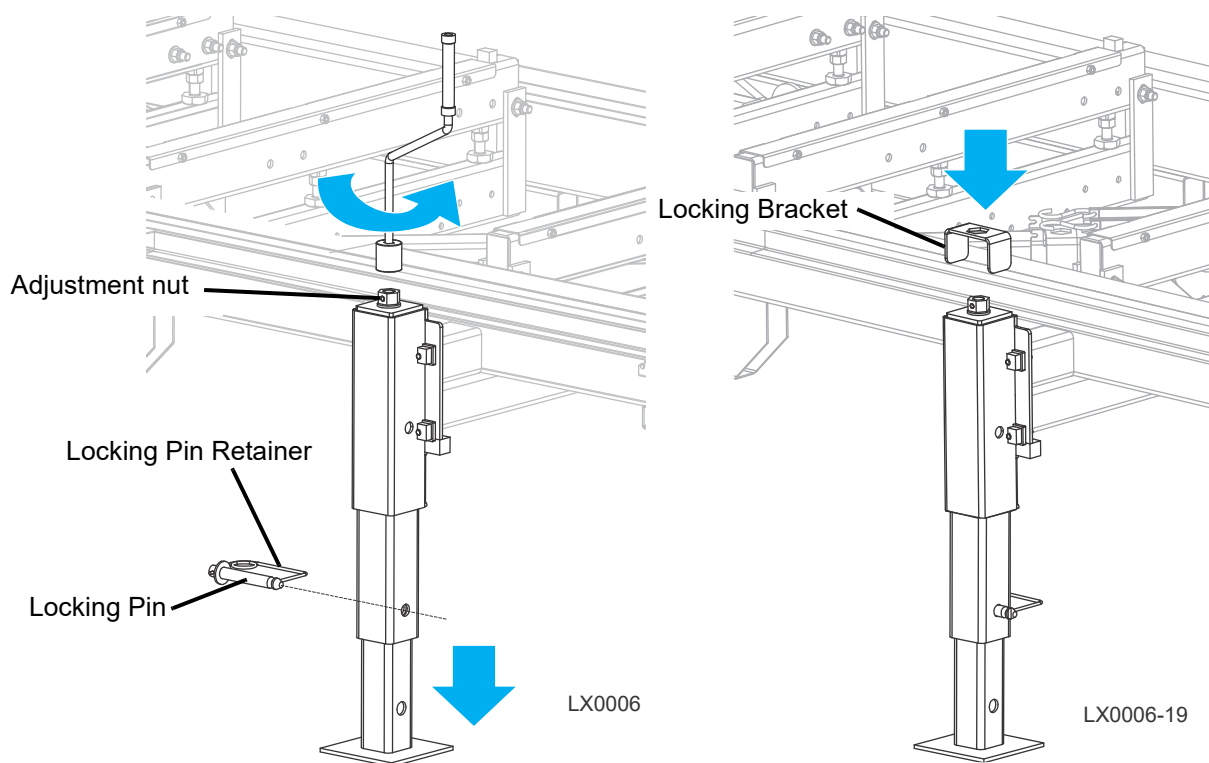

FIG. 2-1. OUTRIGGER ADJUSTMENT.
3. Unclip the retainer on each locking pin on the adjustable outriggers, and use the adjustment handle to set the height of the extension as shown in Fig. 2-1.